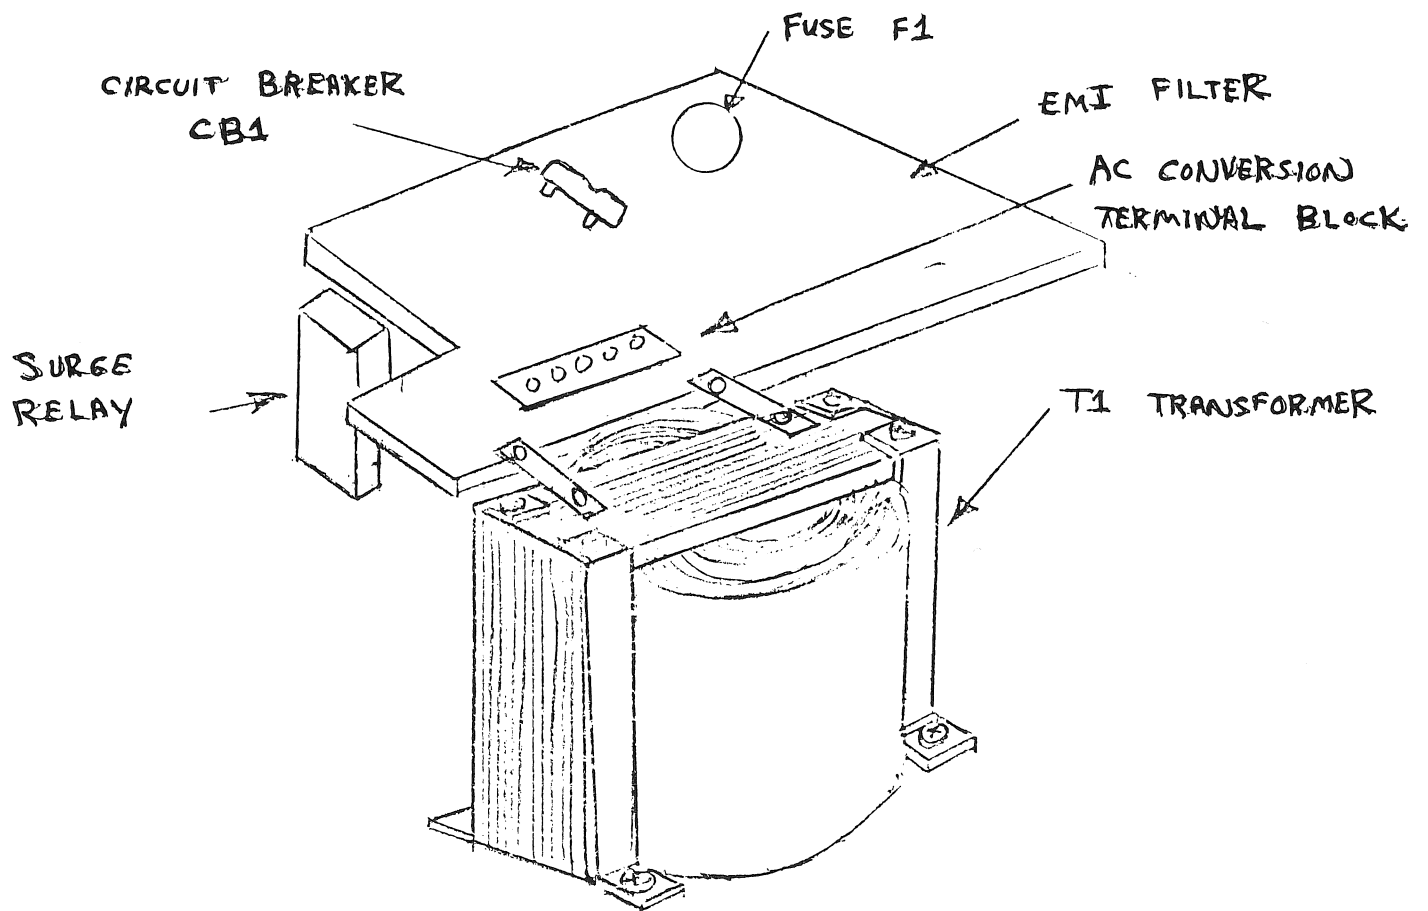

FIGURE 1-3
1.4.1 AC Control Assembly Physical Description (see Figure 1-3)